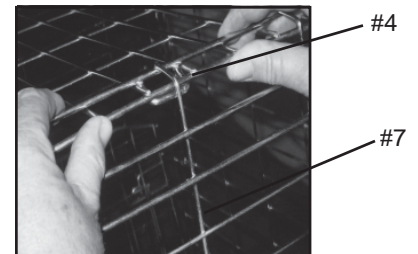

Figure 4
4. Lift Front Side (#3) with Pet Cage Door (#7) and snap into Latch (#4) (See Figure 4). Be sure all sides are snapped into place. (See Figure 7).